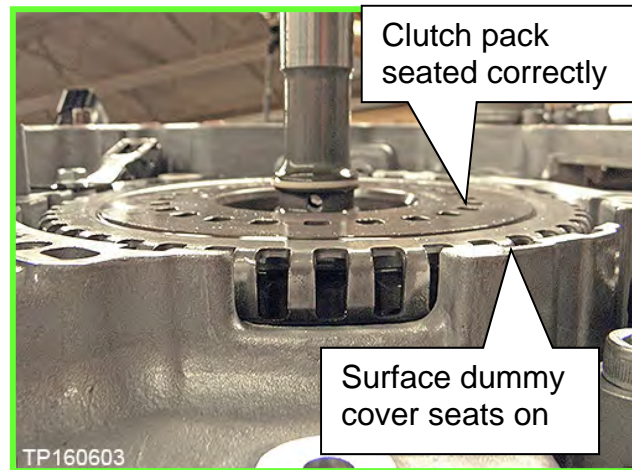

Figure 209
- Figure 209 shows clutch pack fully seated.